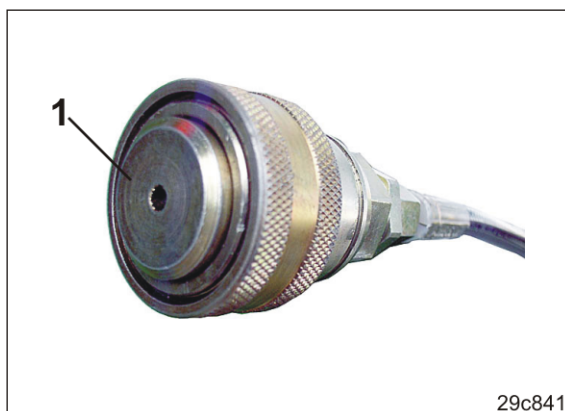

Fig. 139
3. Drain the hydro reservoir (Fig. 136/1) before uncoupling the hydraulic socket (Fig. 139).
The hydraulic socket (Fig. 139) cannot be coupled to the tractor again unless the hydro reservoir is empty.
6. Protect the hydraulic socket and the hydraulic connector against soiling using protective caps (Fig. 139/1).